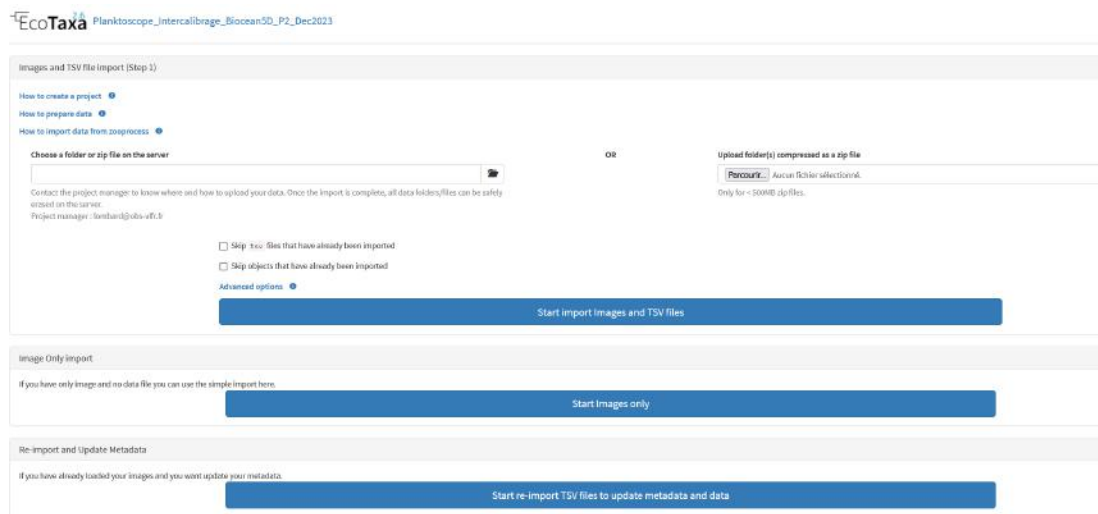

Figure 7: Data import interface
2. Locate your file on the EcoTaxa ftp folders and import it (only works for one zip file at a time for now; Fig.7).